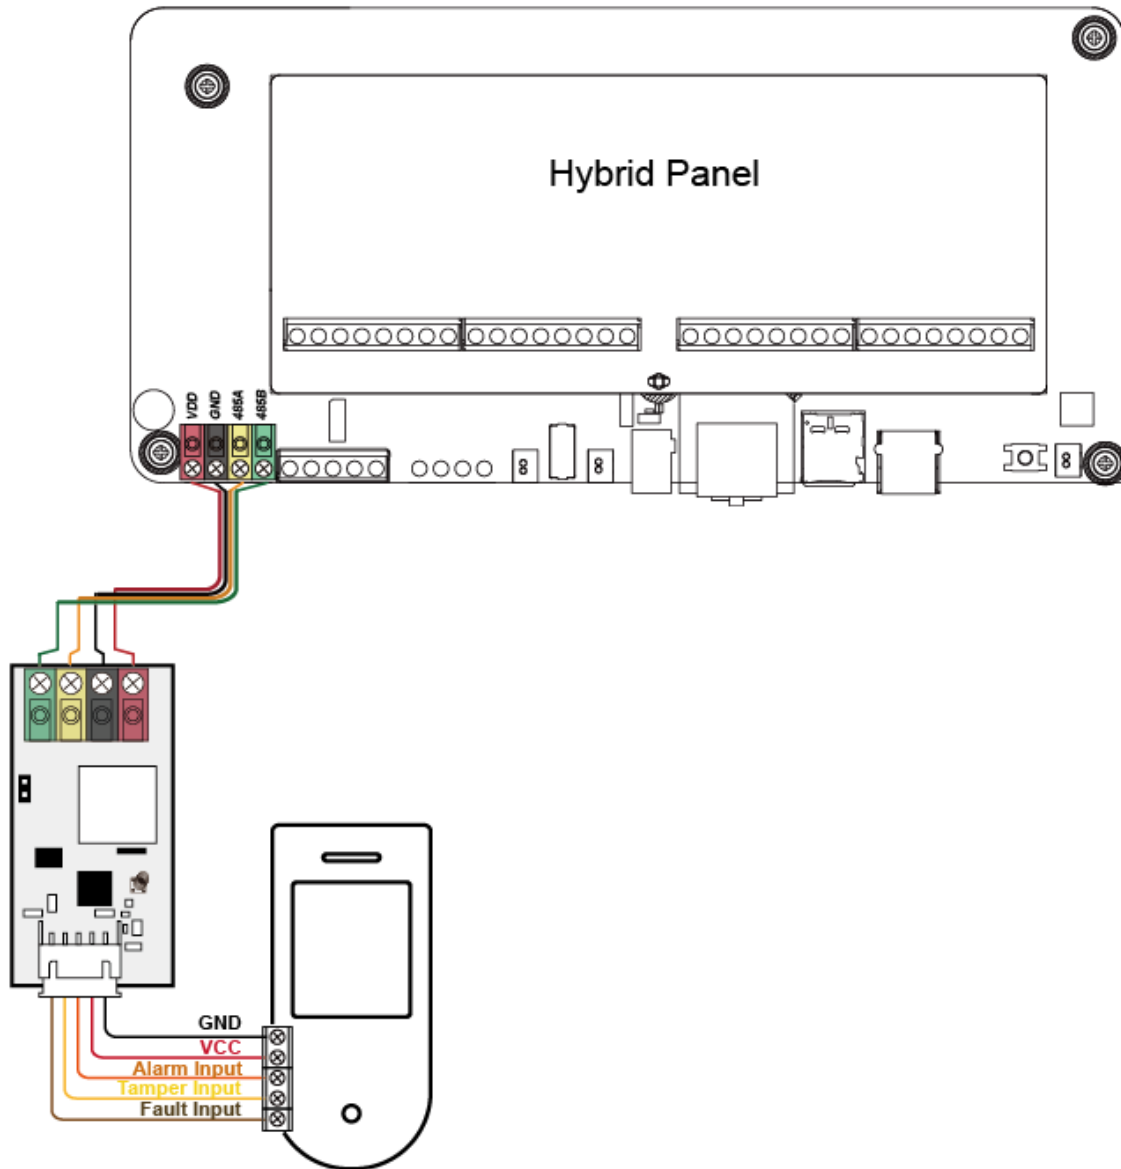

FIG. 1
- Connect the wires to the desired detector according to FIG. 1 below.